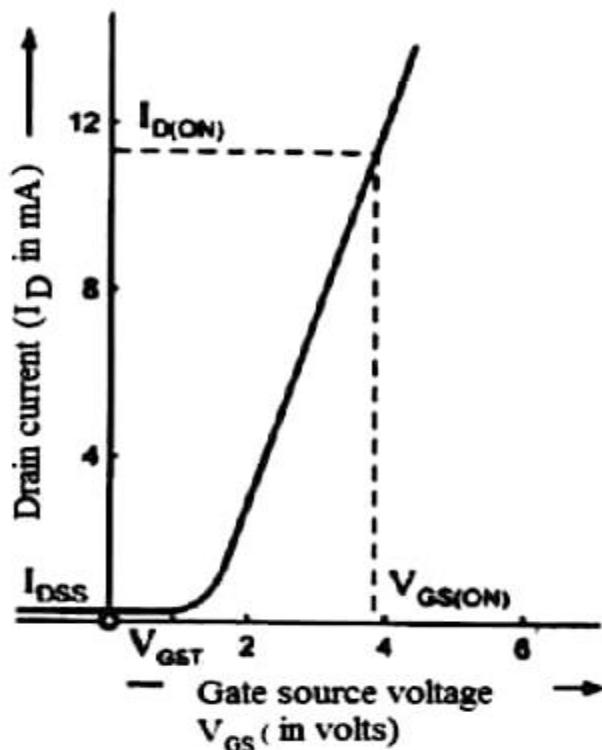

Figure 3.21 Transfer characteristics of N channel E-MOSFET
3.12.2 Transfer characteristics of enhancement type MOSFET: Figure 3.21 shows the transfer or transconductance characteristic curve for the N-channelE-MOSFET. The transfer characteristics give the variations of the drain current I_D with the gate to source voltage V_{GS} for a fixed value of V_{DS} . The current I_{DSS} at $V_{GS} \leq 0$ is almost zero. When the V_{GS} is increased above threshold voltage the drain current increases slowly at first and then rapidly.